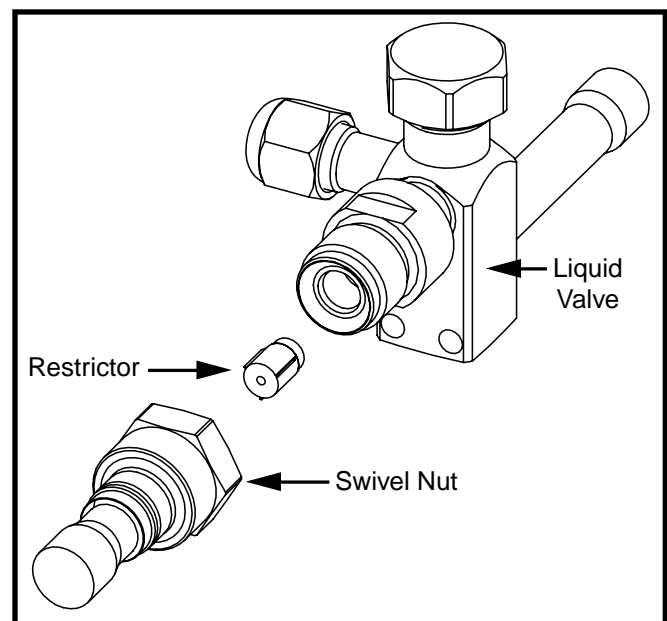

Figure 2. Liquid Valve, Restrictor, & Swivel Nut Adapter
If the outdoor unit has the liquid valve shown in Figure 2 (page 5) then the restrictor is located inside the swivel nut
4. Insert the new orifice into the valve body, with the rounded end facing into the valve. See Figure 2.